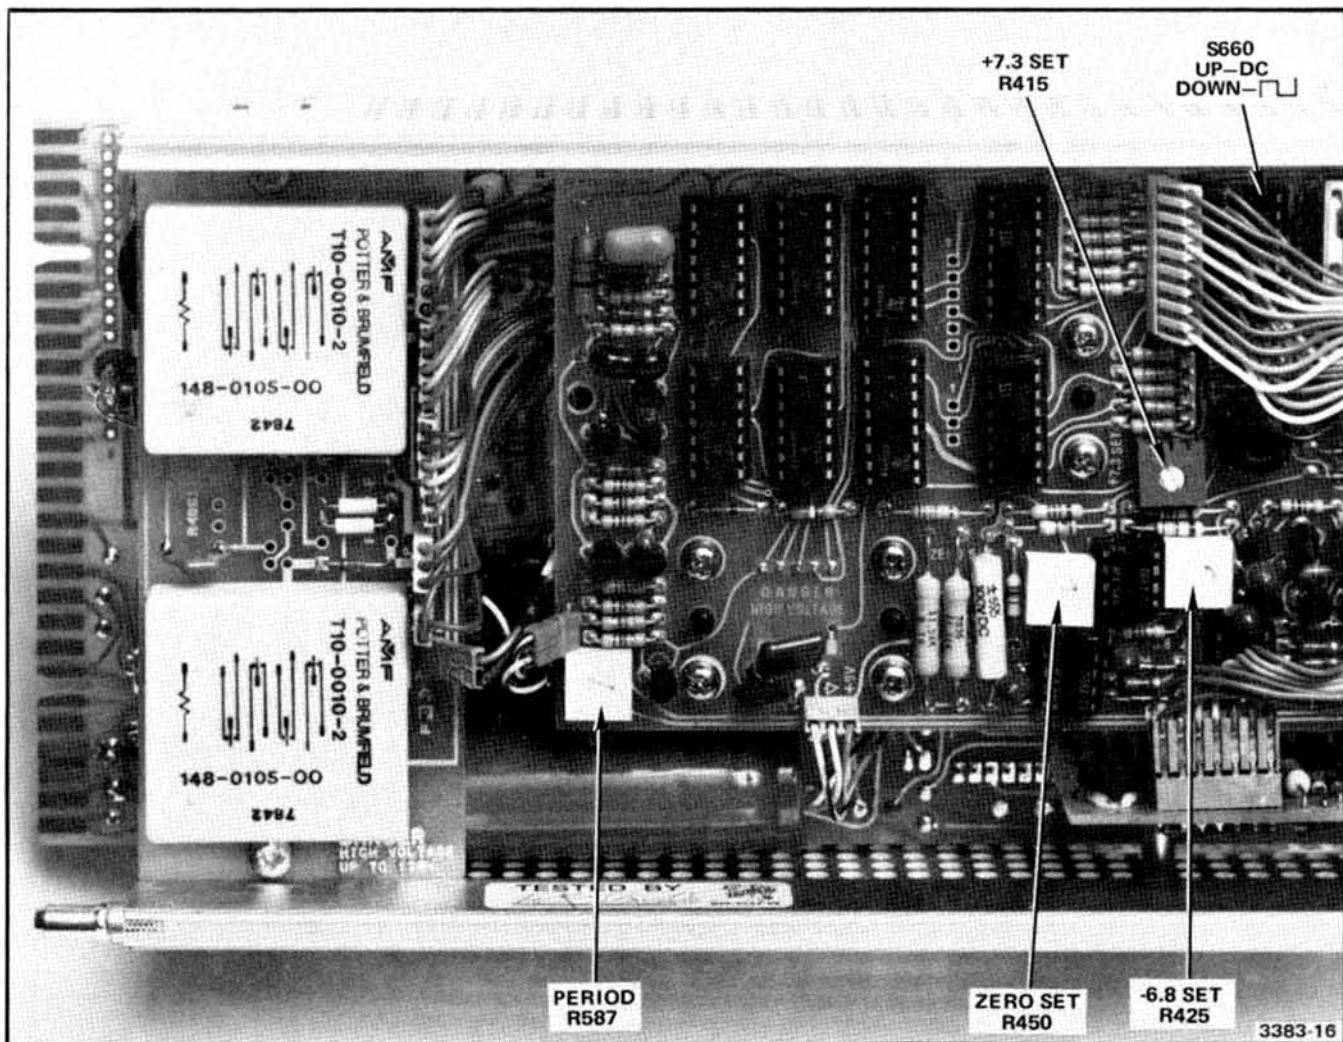

Fig. 4-6. Adjustment locations for the A2 DVM/Period circuit board.
DC— (S660)	DC (up) Refer to Fig. 4-6.
d. Adjust—Zero Set (R450) for a 0.0% reading. Refer to Fig. 4-6.
g. Adjust—-6.8 Set (R425) for a 6.8 reading. Refer to Fig. 4-6.
j. Adjust—+7.3 Set (R415) for a 7.3 reading. Refer to Fig. 4-6.
d. Adjust—Period (R587) for one complete cycle in 5 divisions. Refer to Fig. 4-6.